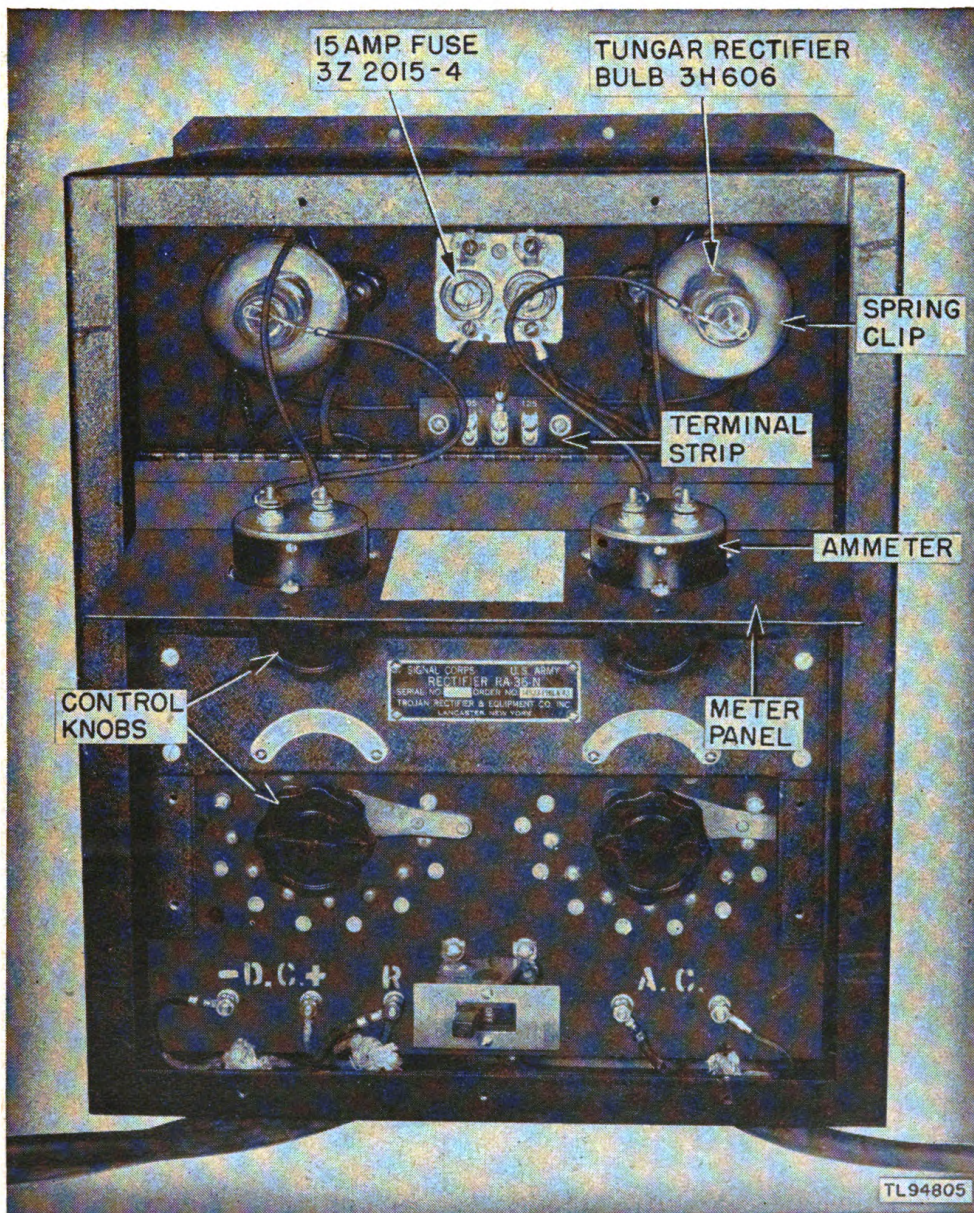
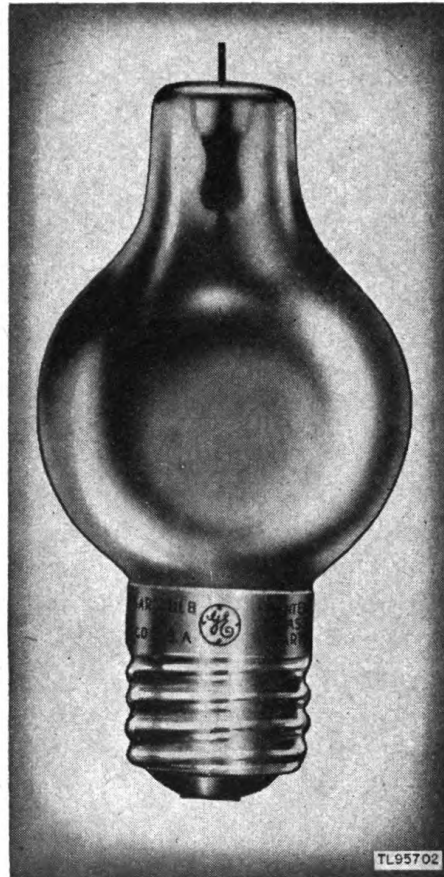

Figure 1. Rectifier RA-36-N, panel open.
Figure 8. Tungar rectifier bulb.
b. Rectifier RA-36-N (fig. 1) has four tap switches for controlling the charging rate. (See par. 13.) (The top front panel is the meter panel which swings down making accessible the rectifier bulbs, fuses, and input-voltage-compensating terminal strip. Below the transformer and bolted to the back wall of the rectifier case are two iron-core reactors. (See fig. 10.) Three rubber-covered cords extend from the bottom of the rectifier case for connection to the a-c power source, battery circuit, and external reactor. (See par. 10.) This unit is wired to operate as a full-wave rectifier only.
(2) On Rectifier RA-36-N the terminal strip is located on the top of the panel. (See fig. 1.)
a. RECTIFIER RA-36-N. Remove the two screws in the top of the rectifier front panel directly above the meters, and open this hinged panel. Open and close this panel carefully because of the meters on it. (See fig. 1.) Remove two rectifier bulbs (fig. 8) from their cartons and screw them tightly into the two bulb sockets accessible. Connect the spring clips, attached to the leads from the meters, to the wires extending through the tops of the bulbs. See that the right-hand clip is connected to the right-hand bulb and the left-hand clip to the left-hand bulb. Screw two of the fuses supplied tightly into the fuse receptacle. Check that the lead on the small input voltage-compensating terminal strip is tightly fastened. (See par. 10.) Check that the control knobs work freely enough for operation. Finally, close the panel and fasten with screws.